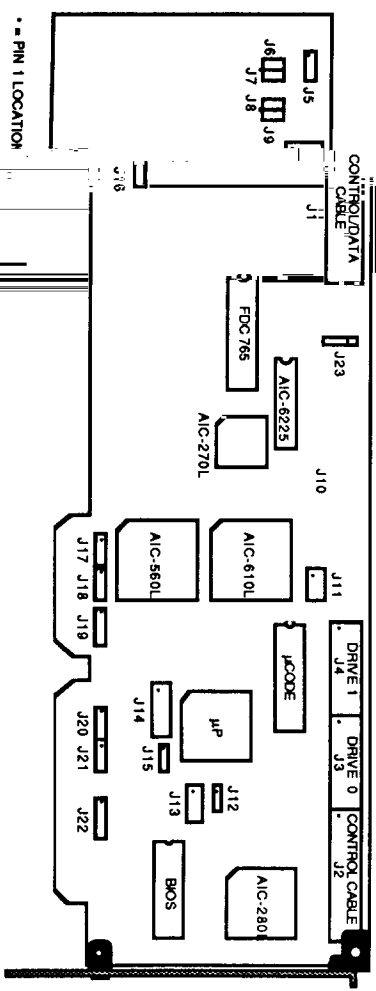

FIGURE 2-1. BOARD LAYOUT
The ACB-2372 is shown in Figure 2-1. This figure shows the location of the ACer microcode, ACB-BIOS, jumpers and connectors. Note that Pin 1 of the connectors is identified by a square solder pad on the solder side of the board.
*Note: Jumper positions and pin numbers are defined from left to right, or top to bottom, where applicable per Figure 2-1. An asterisk (\*) denotes jumpers that are installed for a standard configuration.*